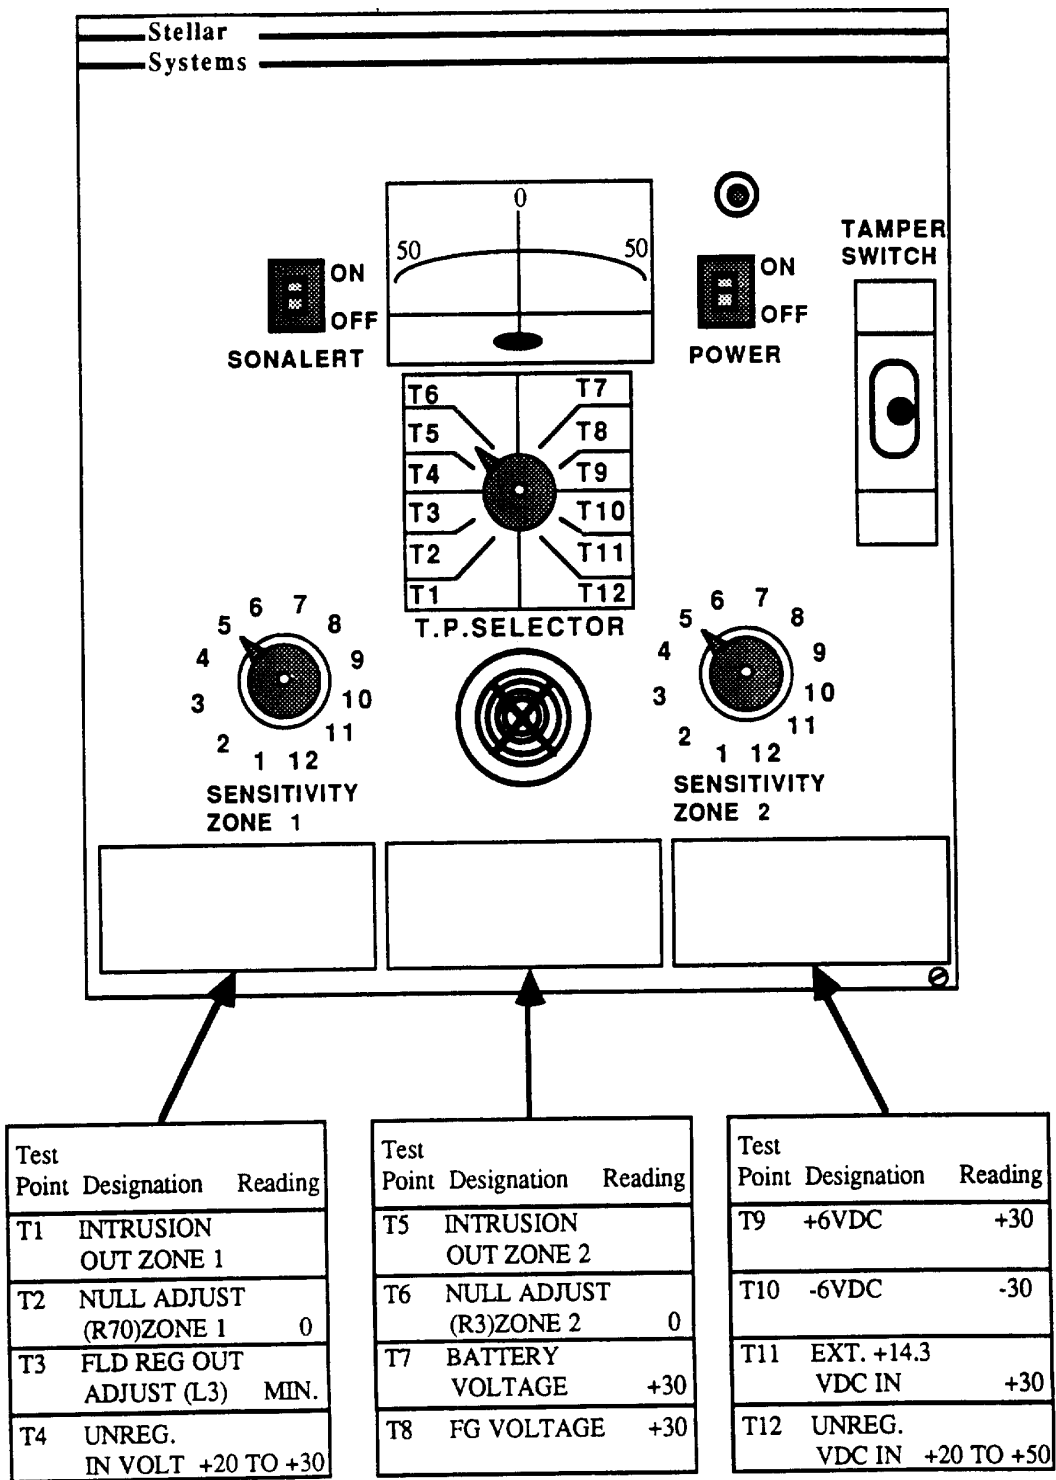

Figure 6-2. Front Panel
Some cumulative non-environmental factors can also effect detection characteristics of the E-Field and make it less effective with time. Because of this, it is recommended that a test of intrusion detection effectiveness be carried out periodically. Testing should be conducted for every zone. Set the TP selector switch on the front panel to T1 for zone 1, or T5 for zone 2 and turn the Sonalert switch on. See Figure 6-2.
See Figure 6-2 for location of L3 and set the TP selector on the front panel to T3 position.
1. See Figures 6-2 and 6-3 and be sure S1 on the main board is at position 1 (FCCW).
5. Allow the front panel meter reading to stabilize around zero (0).